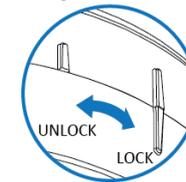

Figure 5
- Note:** The bridge on the camera base (Figure 5) aligns with the 'lock' and 'unlock' bridges on the mount.